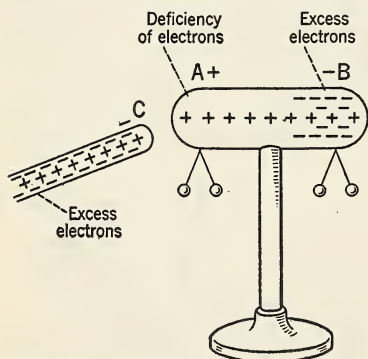

FIG. 575. Charging a rod by induction.
2. *By induction.* Let us next study the effect of bringing a charged rod near a conductor, but *not into contact* with it. The conductor *AB* of Fig. 575 is insulated from the earth. It has just sufficient electrons to neutralize its protons. Hence it is not electrified. A rod, *C*, which has an excess of electrons (negative charges) is now brought near the conductor. Immediately the electrons are repelled to the remote end of the conductor. A charged rod brought near a conductor *induces* electricity of the *same sign* in the remote end of the conductor and it *induces* electricity of the *opposite sign* in the near end of the conductor. When the rod is removed, the electrons spread over the conductor as before.